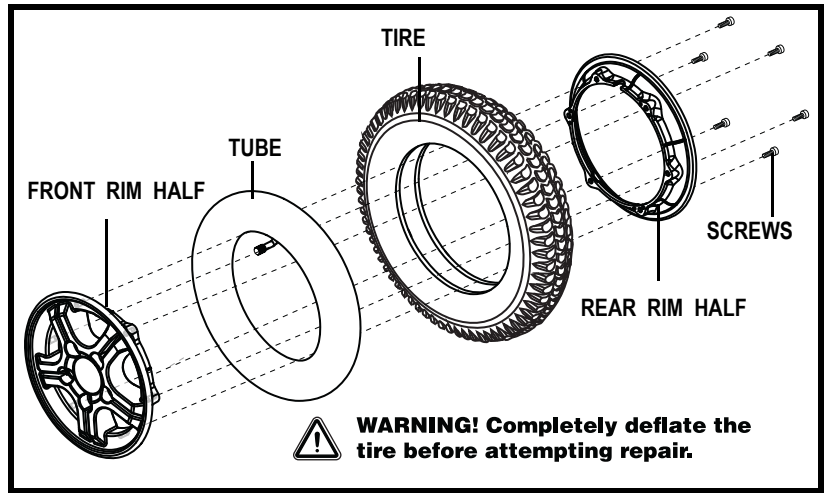

Figure 26. Quantum 6000Z Series Drive Wheel Disassembled
6. Remove the screws and separate the front and rear rim. See figure 26.
10. Reinstall the five (5) lug nuts onto the wheel hub and tighten.